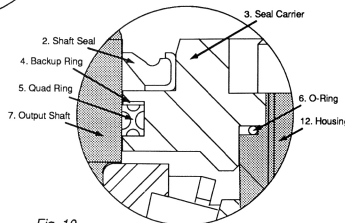

Fig. 10
26. Lubricate backup ring (4), quad ring (5) and 'O' ring (6). Insert backup ring and quad ring in groove of seal carrier. (Fig. 10) Place 'O' ring (6) on seal carrier pilot. (Fig. 8)
27. Press seal (2) into its counterbore in seal carrier (Fig. 10) The open face of the seal should be up. This seal functions as a wiper only and is installed to keep contaminants out of the unit.